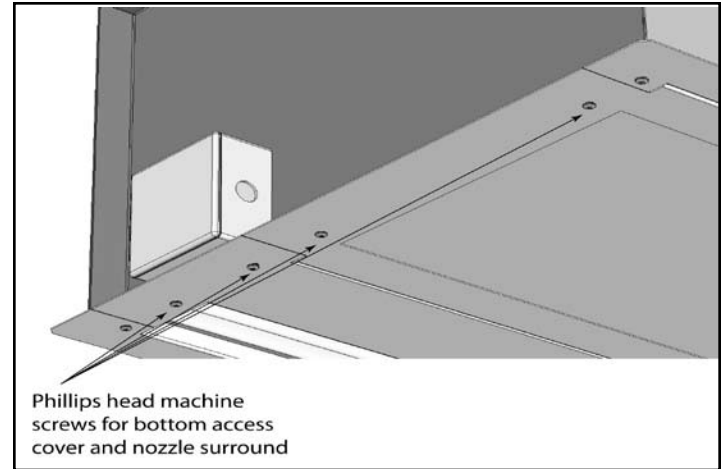

Figure 6
- B. Remove the bottom access cover by removing (4) Phillips head machine screws located at the cover's corners. **See Figure 6.**
2. Remove the bottom access cover by removing (4) Phillips head machine screws located at the cover's corners. **See Figure 6.**
3. If desired, the nozzle surround may be removed to provide more working room. To remove the nozzle surround, remove the (4) Phillips head machine screws from the corners. The Intelliswitch® ribbon cable must also be disconnected from the back of the display circuit board